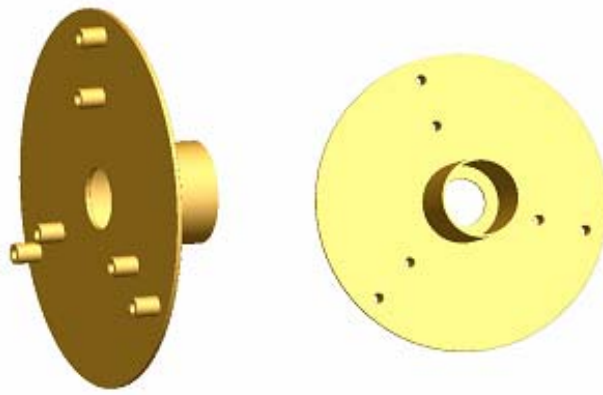

Figure 7, Tower Mounting adapters for the SeaHawk VAWT
**Tower Mounting:** The SeaHawk wind turbine is attached to its tower by pipe adapters, shown in Figure 7, that are designed to fit inside pipes with inner diameters of 88.9 mm (3.5 in), 127 mm (5 in), or 203.2 mm (8 in).